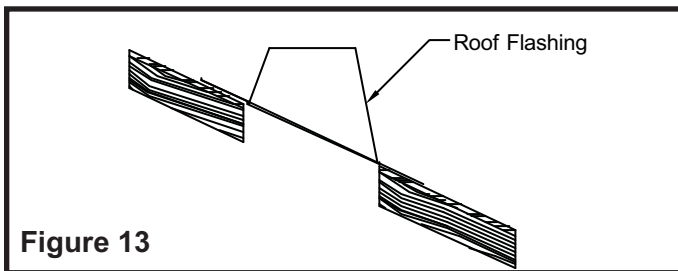

Figure 13
- 3) Install the Roof Flashing using suitable fasteners for the roof decking (See **Figure 13**).